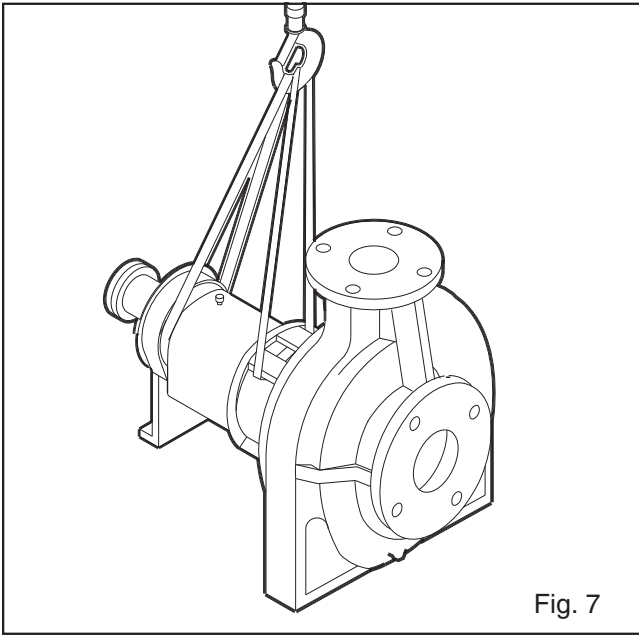

Fig. 7
**NOTE:** When lifting the NM 3196 or metallic units with integral suction flanges that do not have a way to secure the strap on the suction flange, the strap shown in Figures 4-6 around the suction flange should be secured around the frame adapter (Fig. 7).